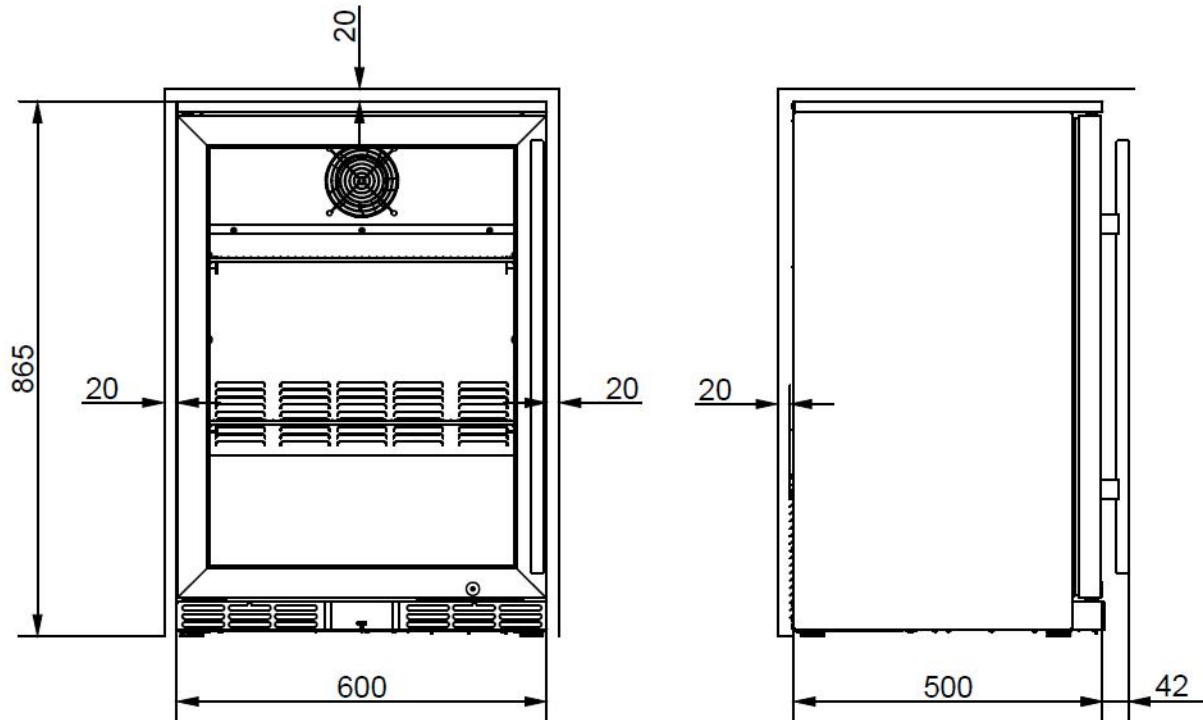

Figure 2
- The appliance requires a minimum ventilation space at sides, top and rear of 20 mm. The front grille must be completely unobstructed. See Figure 2.